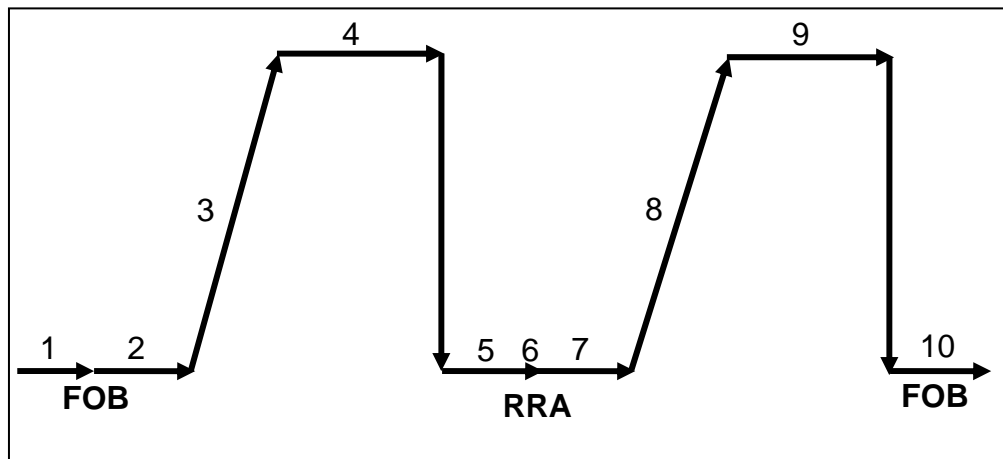

Figure 1: Mission Profile
3.1 Required Mission Performance (zero wind, standard day atmosphere - see Figure 1)